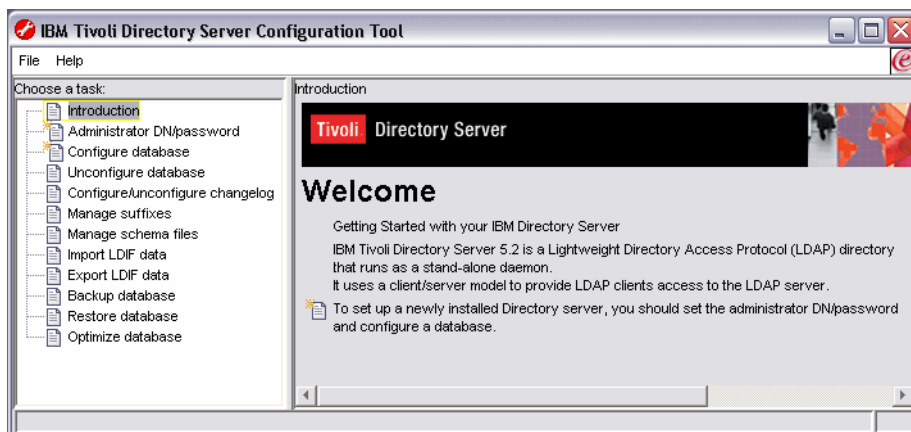

Figure A-43 Directory Server Configuration: Welcome
- ▶ The Welcome screen appears (Figure A-43).